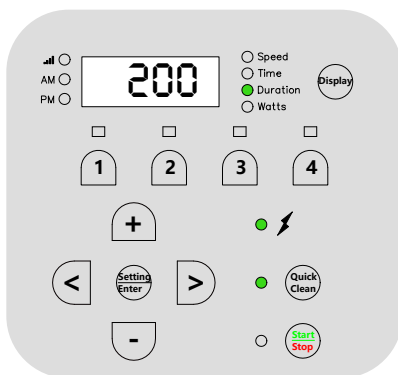

Figure 15
4. Press **Quick Clean**. The Quick Clean duration will display. The “Duration” parameter LED will blink while editing. See **Figure 15**.